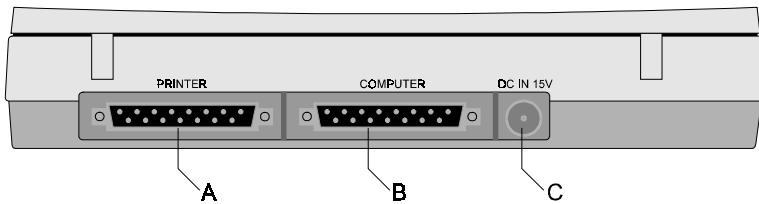

Figure 1: Rear of the scanner
3. Connect the printer cable (if present) to the 'Printer' connection at the back of the scanner (connector A, Figure 1).
5. Connect the other end of the interface cable to the scanner's 'Computer' connection (connector B, Figure 1).
6. Connect the cable from the power supply adapter to the scanner (connector C, Figure 1).